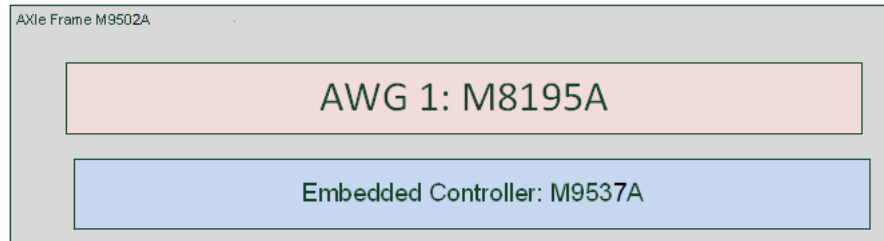

Figure 16 Hardware setup for Single-lane with module M8195A
- 1 Put M8195A and an Embedded Controller in the 2 slot frame AXIe chassis as shown in Figure 16.